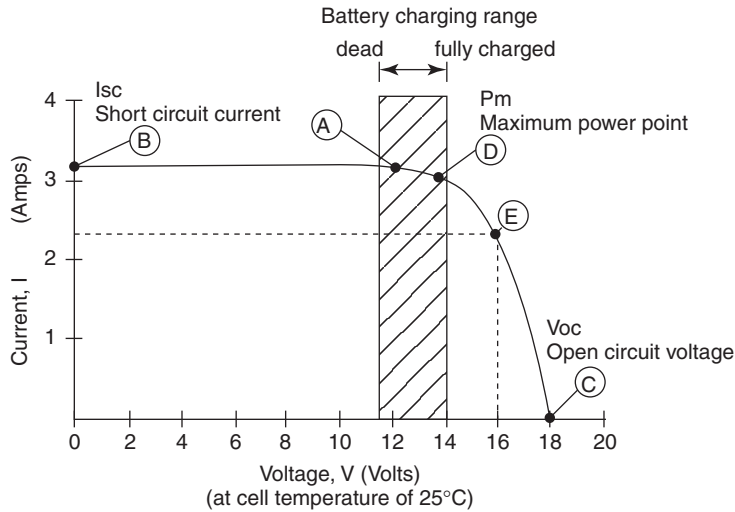

Figure 3.4 The I-V curve
Figure 3.4 shows an I-V curve for a module rated at 42W_p at STC. The left-hand side (I) gives the current the module produces depending on voltage. The bottom side gives the voltage produced by the module at various currents. At each point along the line, you can determine the power of the module by multiplying the current by the voltage. For example, imagine a battery being charged by a module: at 12 volts (Point A, Figure 3.4), the current from the module is 3.2 amps and the power output is 38.4 watts (amps × volts = power, so $12\text{V} \times 3.2\text{A} = 38.4\text{W}$, which is less than the rated 42W_p).
There are several points of interest about the I-V curve in Figure 3.4:
- P_m , the maximum power point, is the point on the I-V curve where the module produces the greatest power (its rated maximum, which in this example is 42Wp). The maximum power point is always found at the place where the curve begins to bend steeply downward (‘the knee’, Point D). It is advisable to operate a module as near to the maximum power point as possible. If, for example, the module in Figure 3.4 is operating a load that demands 16 volts (Point E), power output (at 36 watts) is much less than that at the maximum power at Point D.
The shaded portion of Figure 3.4 shows the voltage boundaries within which a lead-acid battery is charged. A battery in a low state of charge is close to 11V, a battery in a high state of charge may be above 14V. Note from the I-V curve that as a battery’s charge increases, the charging current from the module begins to decrease.